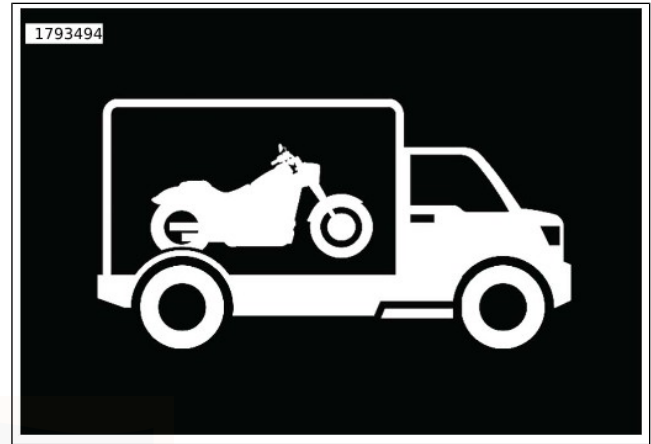

Figure 22. Transport Mode Display
4. See Figure 22. Once activated, a transport mode icon will be displayed on the IFCU to indicate that the security system is in transport mode.